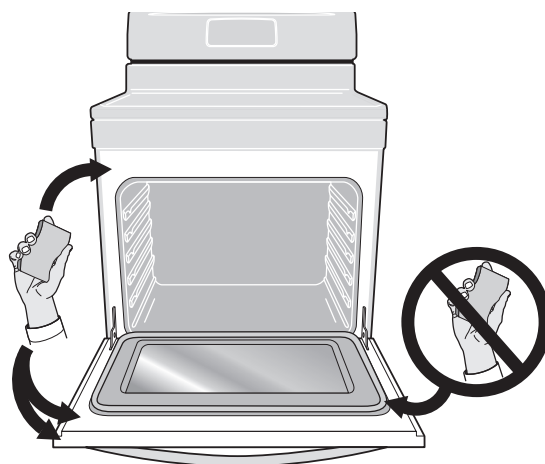

Fig. 16 Areas to clean and to avoid
- Do not use oven cleaners or oven protective coatings in or around any part of the oven interior. Clean any soil from the oven frame, the door liner outside the oven door gasket and the small area at the front center of the oven bottom (Fig. 16, on page 23). These areas heat sufficiently to burn soil on. Clean using soap and water prior to starting Self Clean.